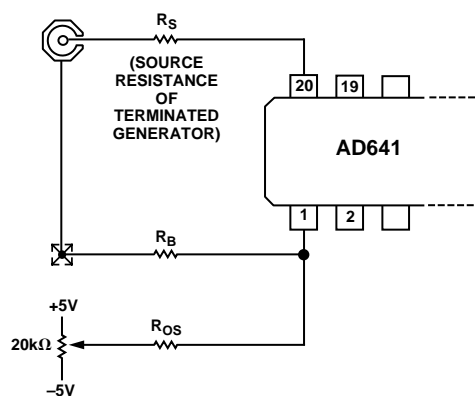

Figure 25. Optional Input Offset Voltage Nulling Circuit; See Text for Component Values
In most applications there will be no need to use any offset adjustment. However, a general offset trimming circuit is shown in Figure 25. R_S is the source resistance of the signal. *Note: 50 Ω rf sources may include a blocking capacitor and have no dc path to ground, or may be transformer coupled and have a near zero resistance to ground.* Determine whether the source resistance is zero, 25 Ω or 50 Ω (with the generator terminated in 50 Ω) to find the correct value of bias compensating resistor, R_B , which should optimally be equal to R_S , unless $R_S = 0$, in which case use $R_B = 5$ Ω . The value of R_{OS} should be set to 20,000 R_B to provide a ± 250 μV trim range. To null the offset, set the source voltage to zero and use a DVM to observe the logarithmic output voltage. Recall that the LOG OUT current of the AD641 exhibits an *absolute value response* to the input voltage, so the offset potentiometer is adjusted to the point where the logarithmic output "turns around" (reaches a local maximum or minimum).
R4 is identical to R2, and in shunt with R3 (270 Ω thin film) forms a 27 Ω resistor with the same TC as the output resistance of the attenuator. By connecting Pin 1 to ATN LOW (Pin 2) this resistance minimizes the offset caused by bias currents. The offset nulling scheme shown in Figure 25 may still be used, with the external resistor R_B omitted and $R_{OS} = 500\text{ k}\Omega$. Offset stability is improved because the compensating voltage introduced at Pin 20 is now PTAT. Drifts of under $1\text{ }\mu\text{V}/^\circ\text{C}$ (referred to Pins 1 and 20) can be maintained using the attenuator.
Cascaded AD641s can be used in dc applications, but input offset voltage will limit the dynamic range. The dc intercept is 6 μ V. *The offset should not be confused with the intercept*, which is found by *extrapolating* the transfer function from its central “log linear” region. This can be understood by referring to Equation (1) and noting that an input offset is simply additive to the value of V_{IN} in the numerator of the logarithmic argument; it does not affect the denominator (or intercept) V_X . In dc coupled applications of wide dynamic range, special precautions must be taken to null the input offset and minimize drift due to input bias offset. It is recommended that the input attenuator be used, providing a practical input range of -74 dBV (± 200 μ V dc) to $+6$ dBV (± 2 V dc) when nulled using the adjustment circuit shown in Figure 25.